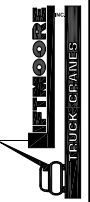

FIG.1 SUGGESTED WIRING SCHEMATIC FOR UNDERNEATH CRANE.
4. The vehicle's battery should have a capacity of at least 90 Amp-Hr. A second battery located near the crane is strongly advised (Refer to drawing 50912 FIG.1). This will keep the voltage as near 12 Volts as possible while the crane is running. The life of the crane's electrical components will be longer if the voltage is as near 12 volts as possible. A deep cycle battery provides the best battery life. Connect the second battery in parallel with the truck's original equipment battery using at least No. 1 battery wire.
5. Install the 150 Amp circuit breaker near the battery supplying the crane and on the battery's positive line with a universal or marine type wing nut lug terminal (See drawing 50912 FIG.1). This breaker is to protect the battery in event of an accidental grounding of the positive wire anywhere along its length. Use a section of the wire and the terminals supplied to connect between the battery and the circuit breaker. See drawing No. 50912.
8. Attach ground wire P/N 28643 coming from the crane base directly to the negative terminal of battery (if battery is underneath crane see drawing 50912 FIG.1). Or attach to the truck's main frame (if battery is located in the engine compartment see drawing 50912 FIG.2).